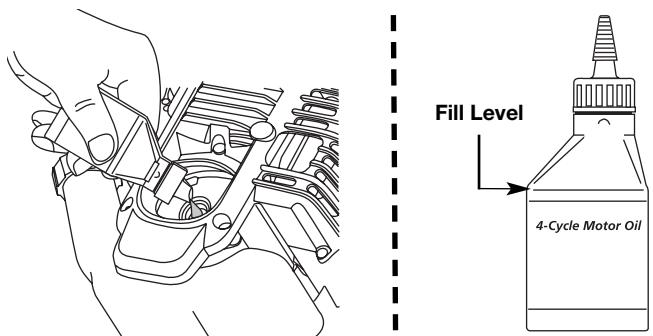

Fig. 21
6. If the oil level is not touching the inner most thread on the oil fill hole, add a small amount of oil to the oil fill hole and recheck (Fig. 21). Repeat this procedure until the oil level reaches the inner most thread on the oil fill hole.
- NOTE:** Use the bottle and spout saved from initial use to measure the correct amount of oil. The top of the label on the bottle measures approximately 3.04 ounces (90 ml) (Fig. 21). Check the level. See *Checking the Oil Level*. If the level is low, add a small amount of oil and recheck. Do not overfill (Fig. 21).